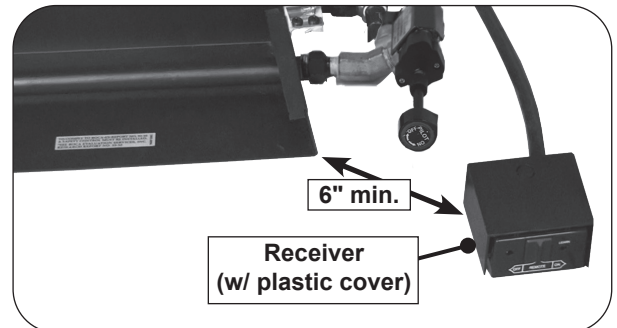

Fig. 9-1 Place receiver away from burner
2. Place the receiver as far from the burner system as possible (see Fig. 9-1).
3. Place the plastic cover over the remote receiver with the open side facing front to allow access to the receiver controls (see Fig. 9-1).